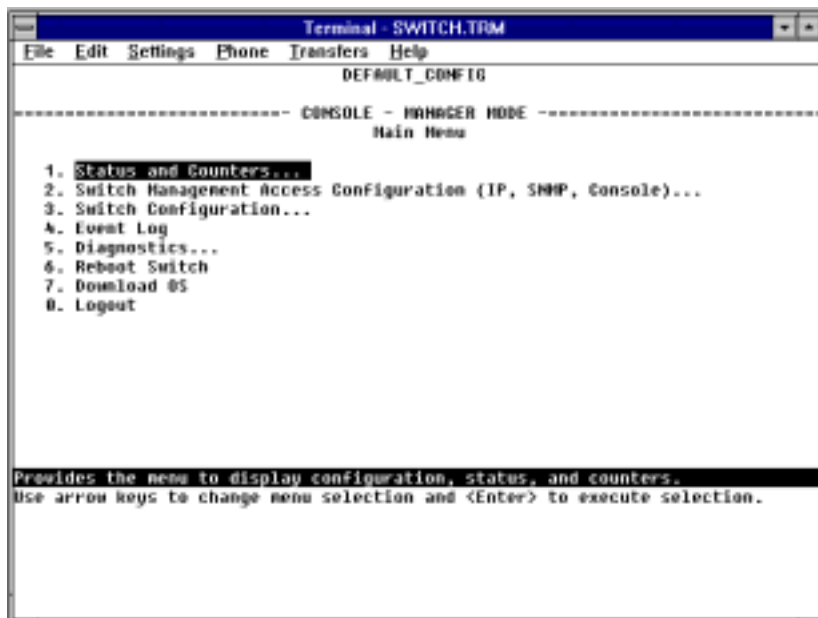

Figure 4-1. The Main Menu
- If a password has been set, the Password prompt appears. Type the password and press **[Enter]** to display the Main Menu (figure 4-1). Figure 4-1 shows the Main Menu for manager-level access. If you enter the operator password to start the console session, the Main Menu has a subset of these items.
Press any key to display the Main Menu (figure 4-1).